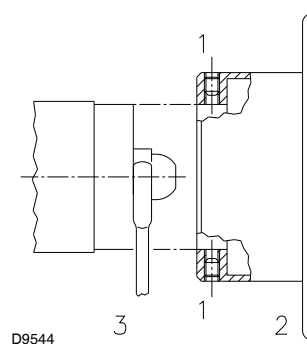

Fig. 14
- fitting the wrench through the central hole in the flame stability disk or loosen screws 1)(Fig. 14);
- remove disk 2)(Fig. 14) and replace the nozzles using the wrench 3)(Fig. 14).